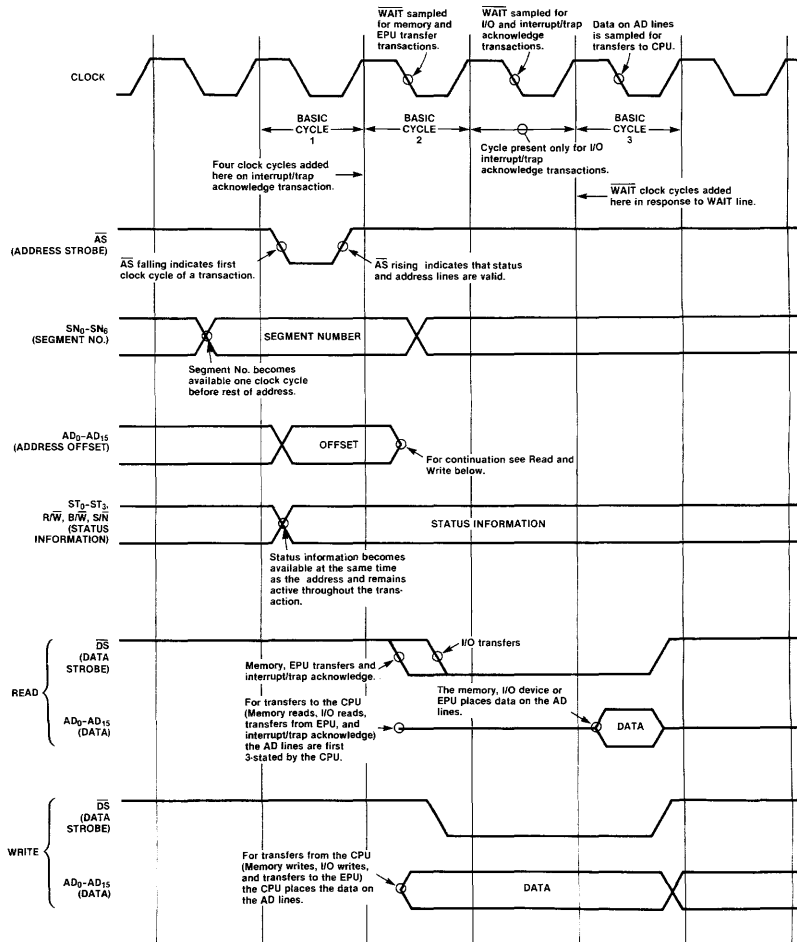

Figure 9-2. Transaction Timing
Data transfers to and from the CPU are accomplished through the use of transactions. Figure 9.2 shows the general timing for a transaction.
9.4.1 WAIT. As shown in Figure 9.2, \overline{WAIT} is sampled on a falling clock edge one cycle before data is sampled by the CPU (Read) or \bar{DS} rises (Read or Write). If \overline{WAIT} is Low, another cycle is added to the transaction before data is sampled or \bar{DS} rises. In this added cycle and all subsequent cycles added due to \overline{WAIT} being Low, \overline{WAIT} is again sampled on the falling edge and, if it is Low, another cycle is added to the transaction. In this way, the transaction can be extended to an arbitrary length to accommodate (for example) slow memories or I/O devices that are not yet ready for data transfer.